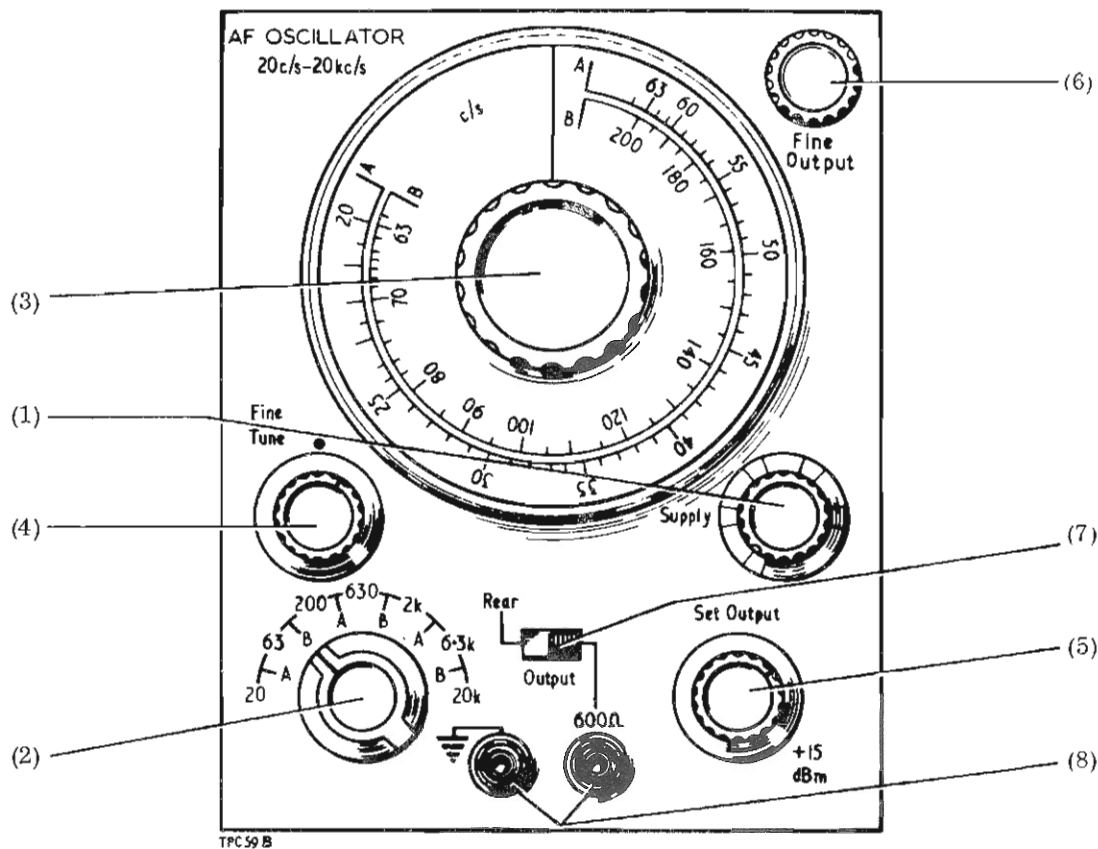

Fig. 1 Controls and connectors on front panel of oscillator
1. The controls and connectors on the front panel of the oscillators (Fig. 1) are as follows :-